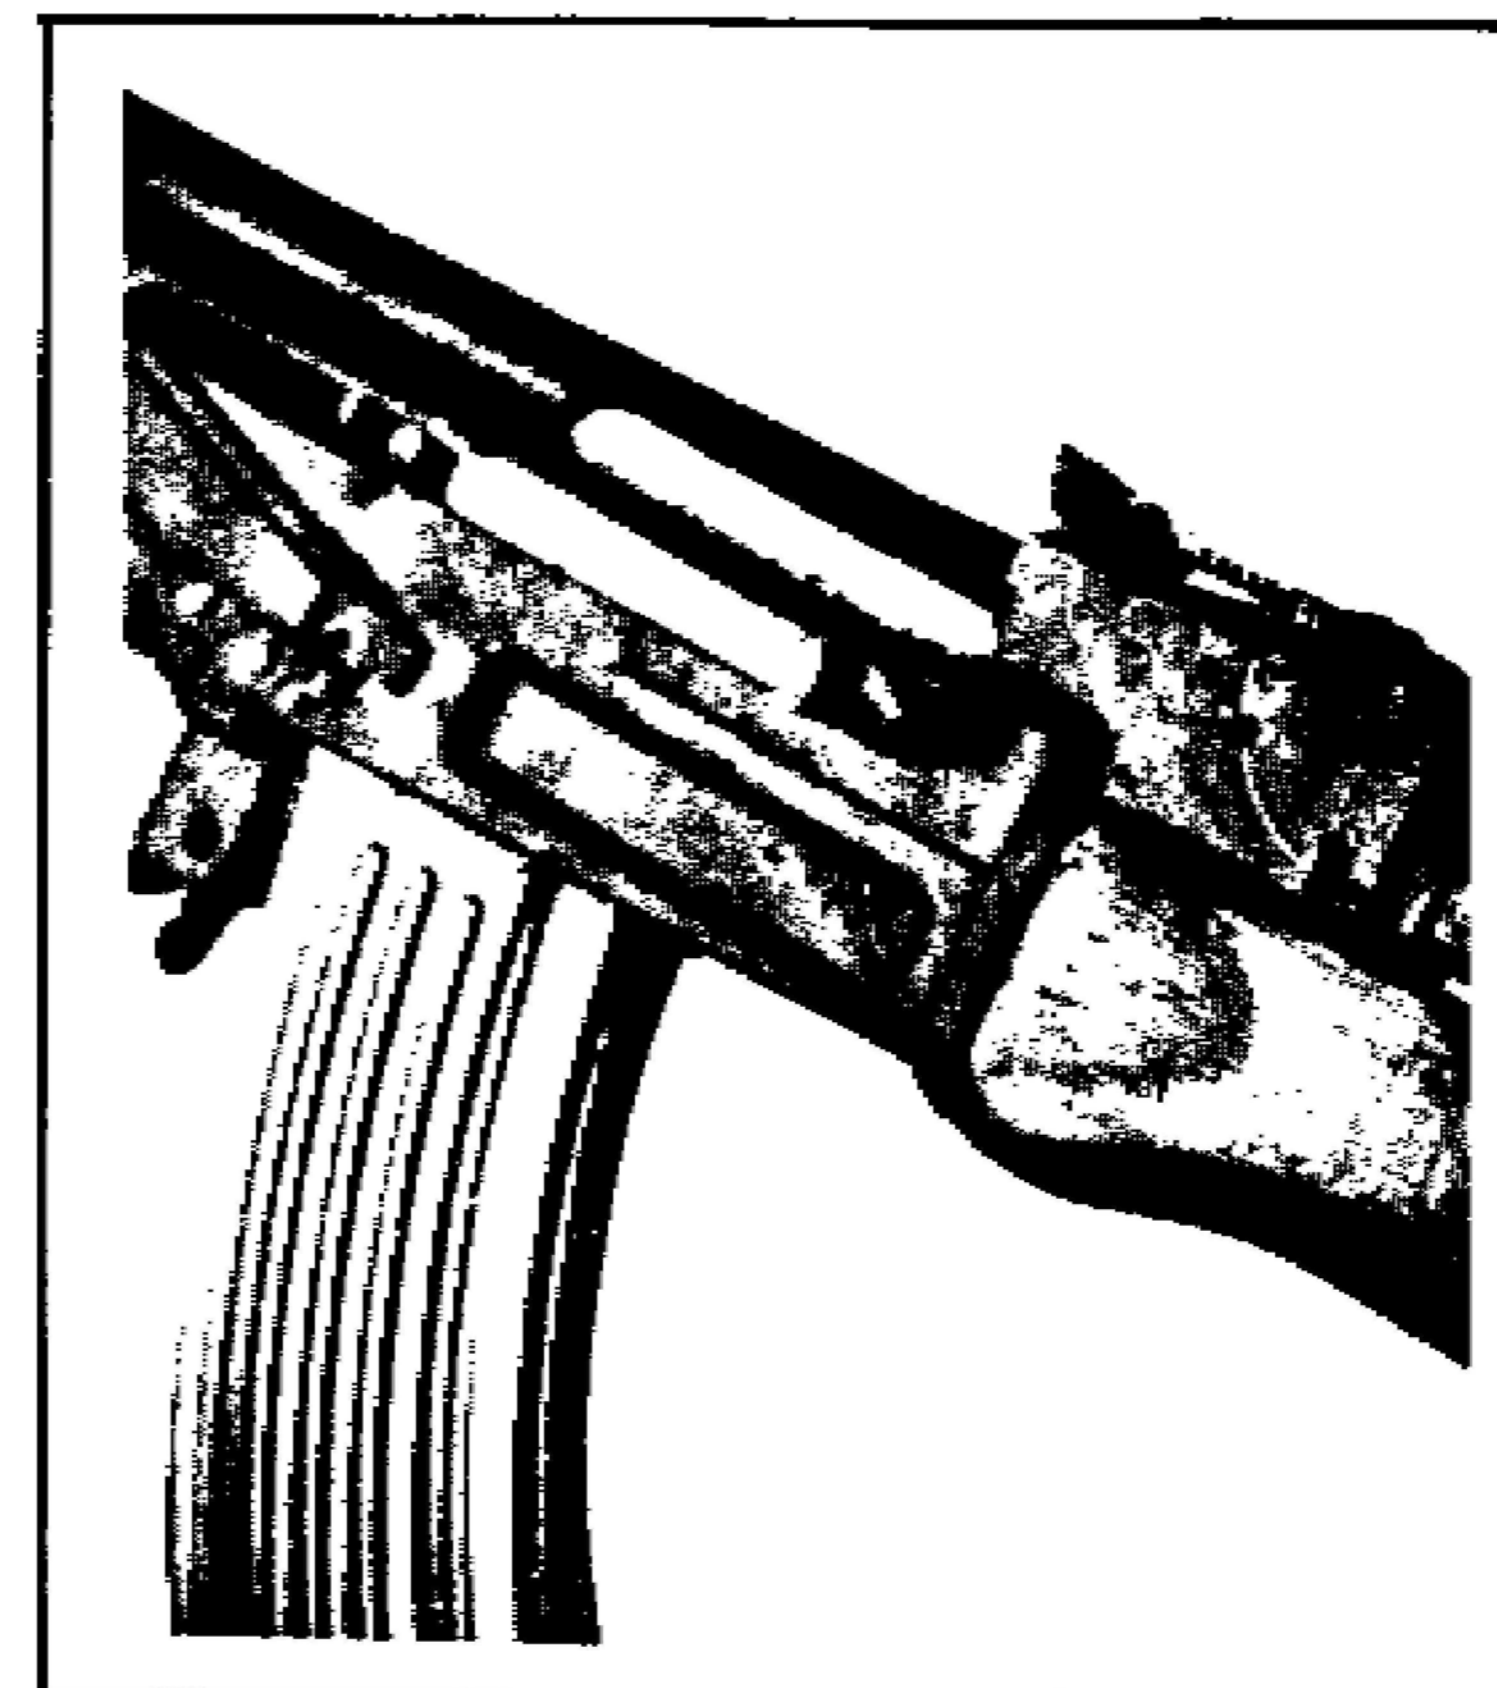
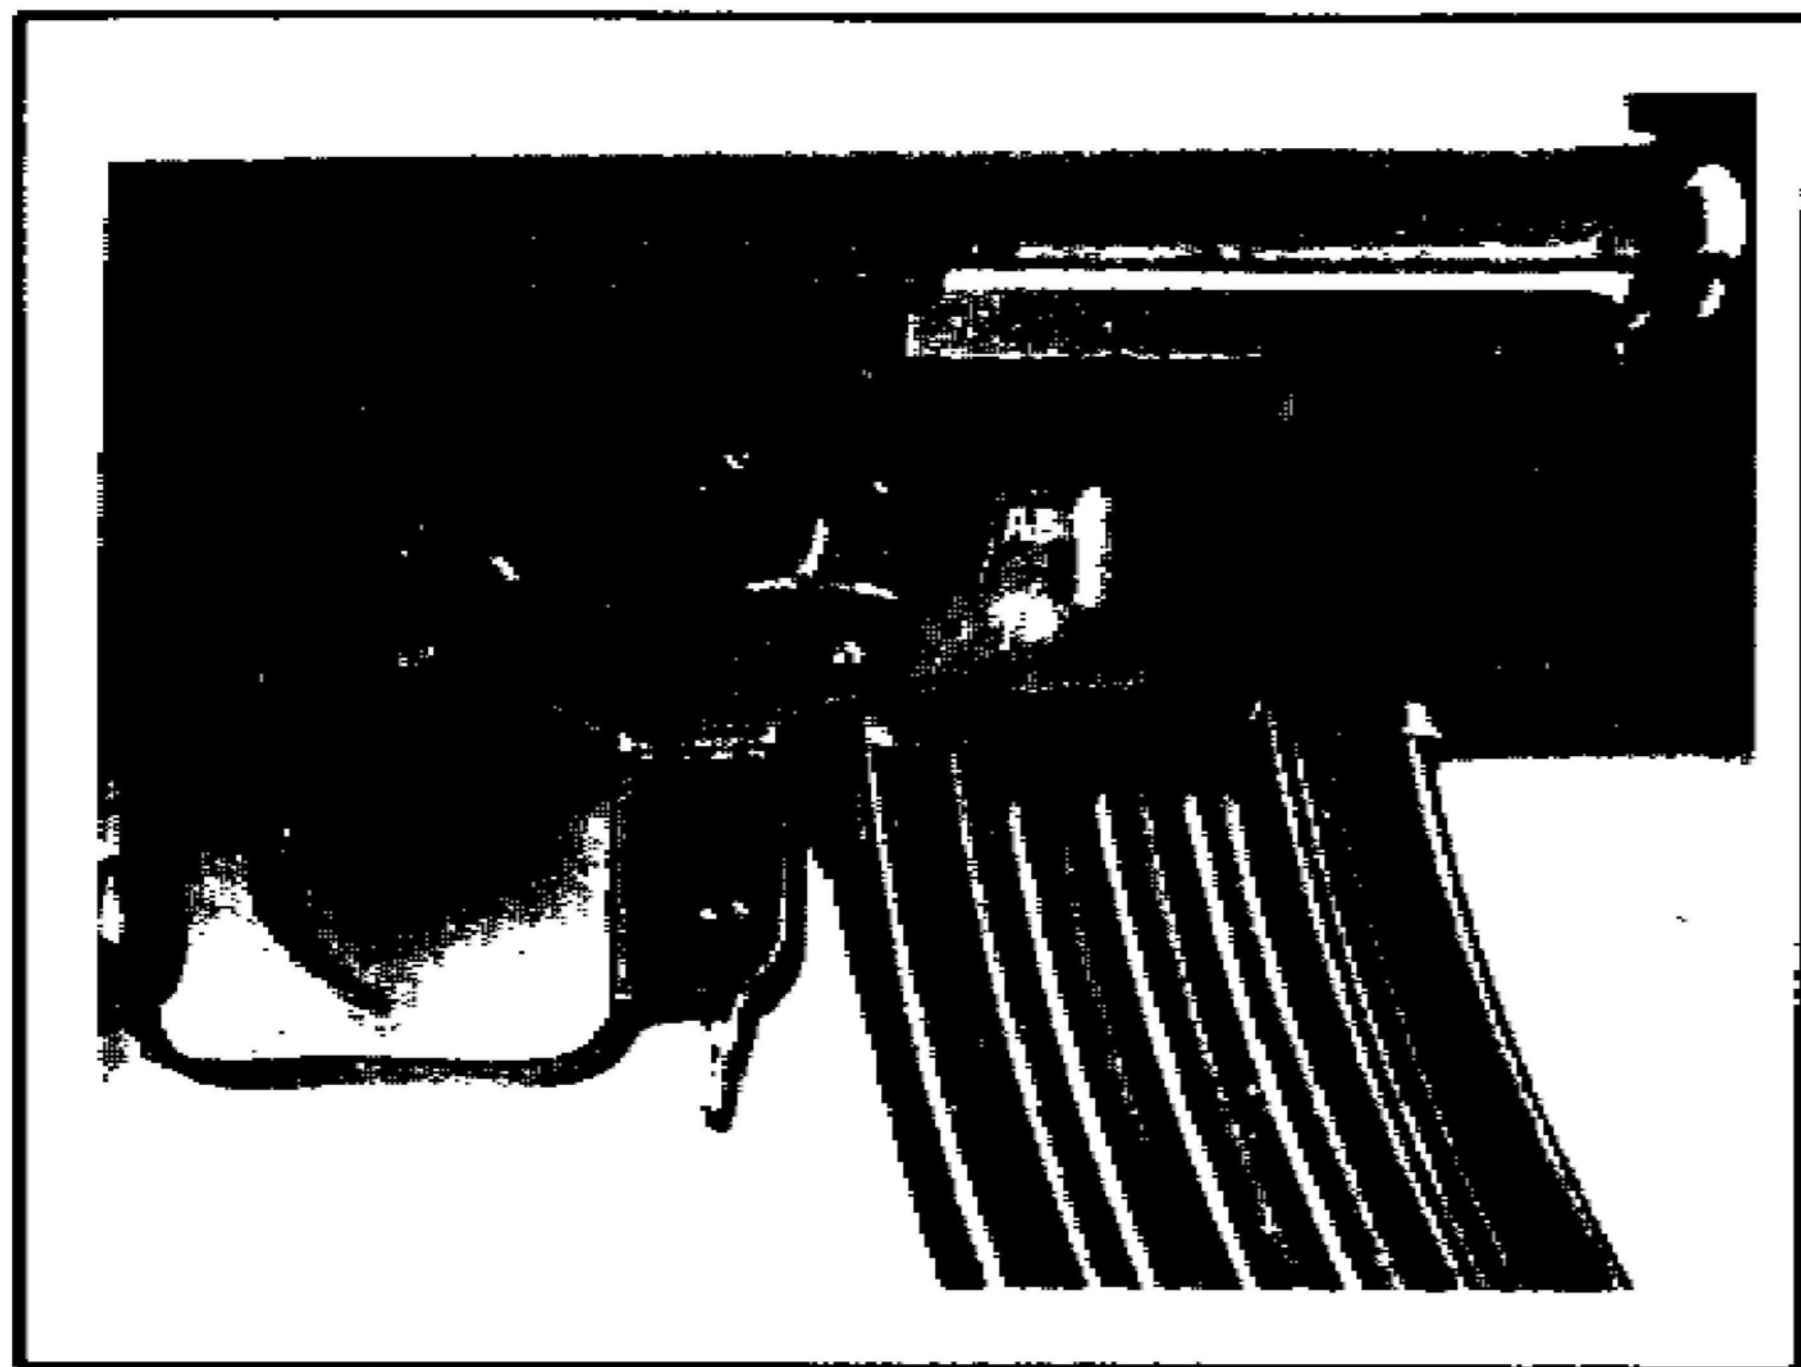

FIGURE 10. OPERATING HANDLE
FIGURE 11. SELECTOR IN FIRING POSITION
**Loading the AK-47:** Pull the operating handle (fig 10), fully to the rear and release it so the lug on the bottom of the bolt can strip a round from the magazine and into the chamber. NOTE: The selector (fig 11), must be in a firing position. CAUTION: Always keep the selector in the safe (upper) position until the weapon is ready to be fired.